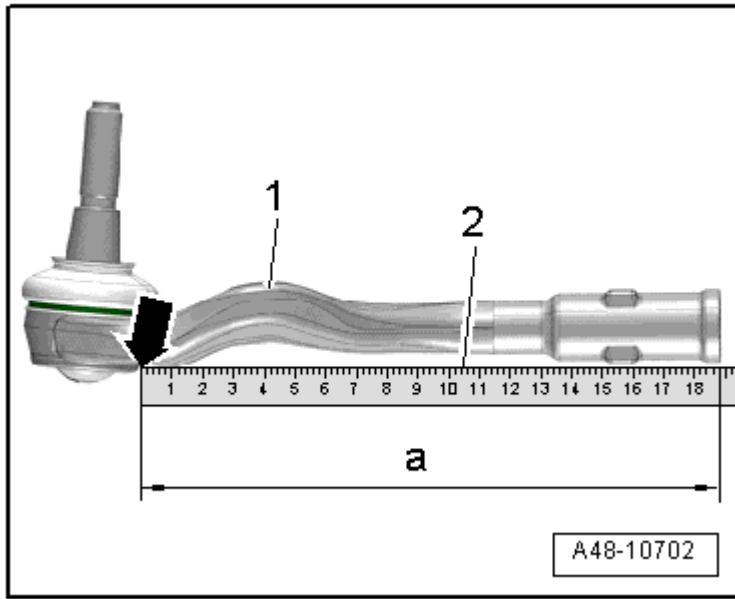

Fig. 11: Tie Rod End Check Dimension
- Check dimension, refer to **Fig. 11**